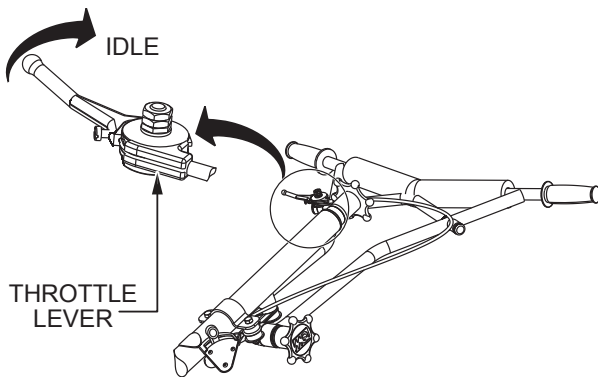

Figure 39. Throttle Lever (IDLE)
1. Return the throttle lever to the **IDLE** position (Figure 39) and let the engine run for three minutes at low speed.